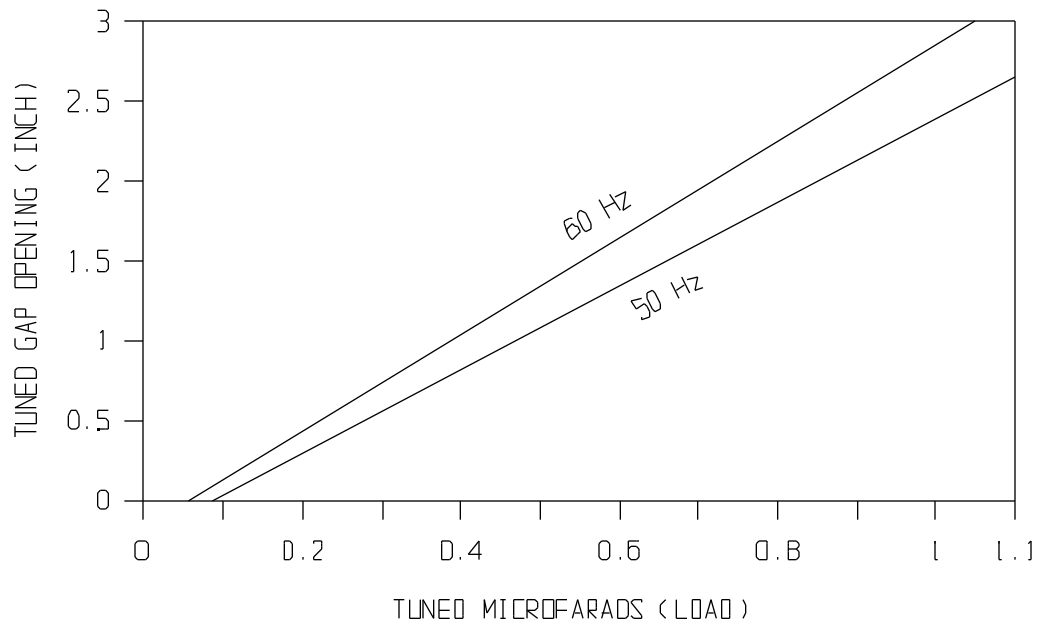

Figure 4: Resonating Inductor Gap Opening vs Tuned Load
8. Using the manual tuning wheel on the Resonating Inductor, tune for a minimum current reading. The graph of Figure 4 shows the approximate gap opening versus a tuned load.